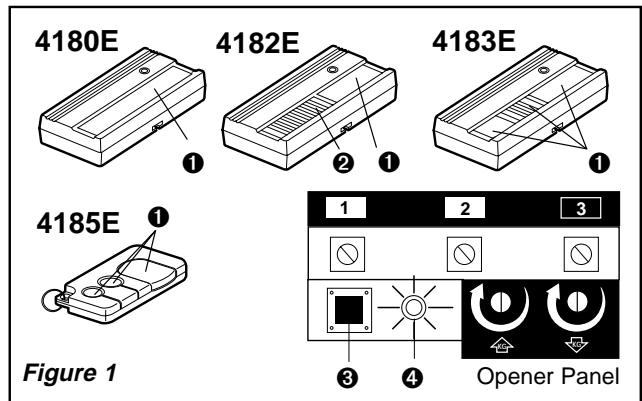

Figure 1
- Figure 1.** Press and hold the selected remote control push button ❶.
- Press and release the green "Smart" button ❷ on the opener panel. The opener light will flash once. Release the remote push button.